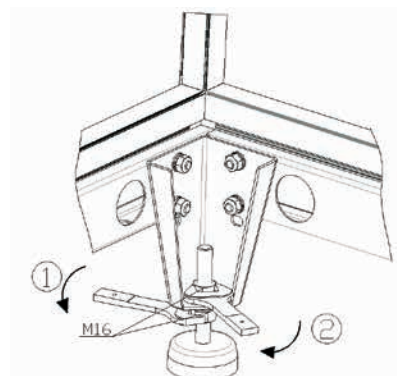

Figure 13
- To level each leg within the 30 mm range, use a wrench for M16 bolts. The height of the leg can be adjusted with the lower nut – see Figure 13. After reaching the correct level, tighten the upper nut.